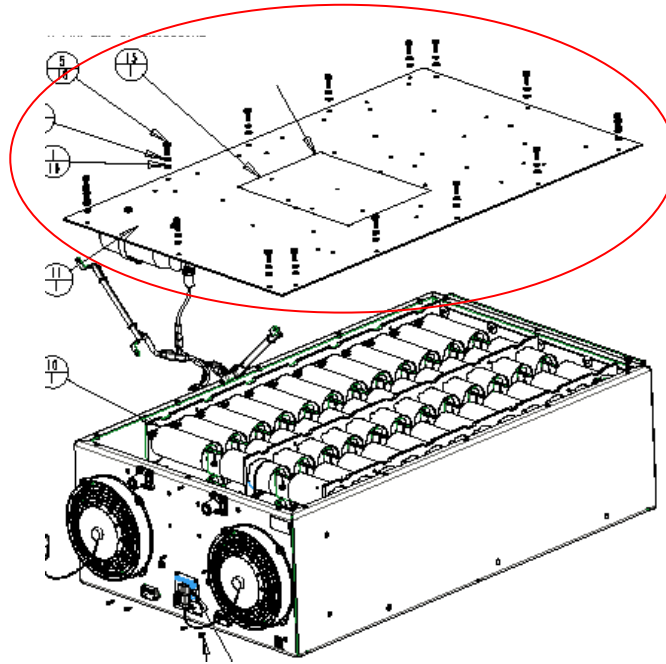

Fig 5 – UCAP Lid
- e. Remove all existing perimeter hardware (16x screws, washers, and lock washers per UCAP) securing the UCAP lid to UCAP box (Fig 5).